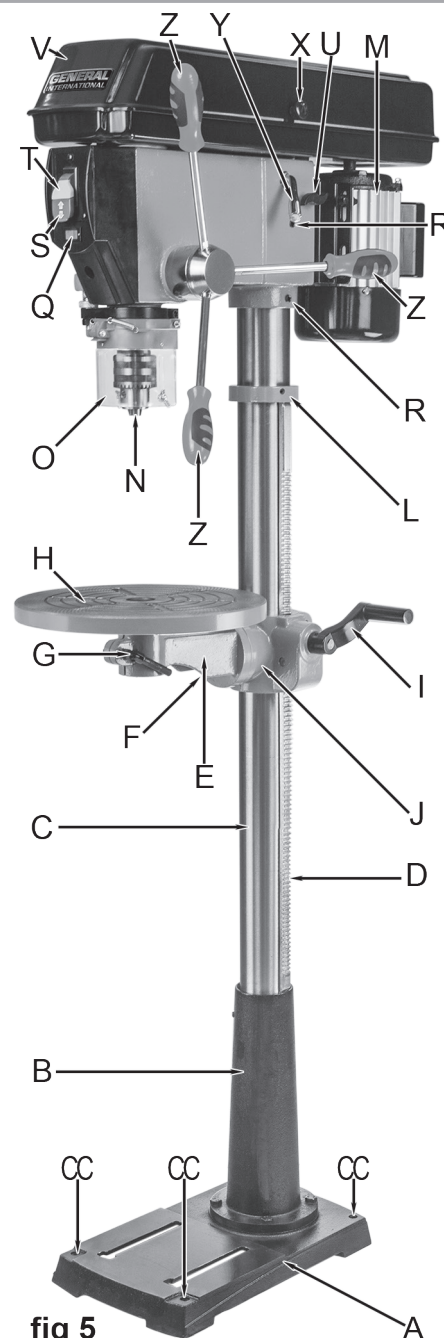

fig 5
2. Insert the rack (D, fig 5) into the vertical groove of the table support. Make sure the worm gear driven by the just-installed worm shaft on the inside of the table support is engaged by the teeth of the rack.
3. Turn the belt tensioning handle (Y, fig 5) clockwise. This will bring the motor pulley closer to the spindle pulley, allowing the drive belts to be slipped on.
4. Turn the belt tensioning handle (Y, fig 5) clockwise. This will pull the motor forward, closer to the drill press head; bringing the motor pulley closer to the spindle pulley, allowing the drive belts to be slipped on.